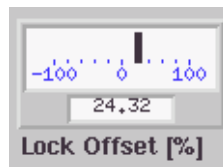

Figure 7-23 The AFC needle drifting towards the right.
3. **Switch the microwave attenuation from 40 dB to 50 dB.** The AFC meter may drift to the right or left. (See Figure 7-23.)